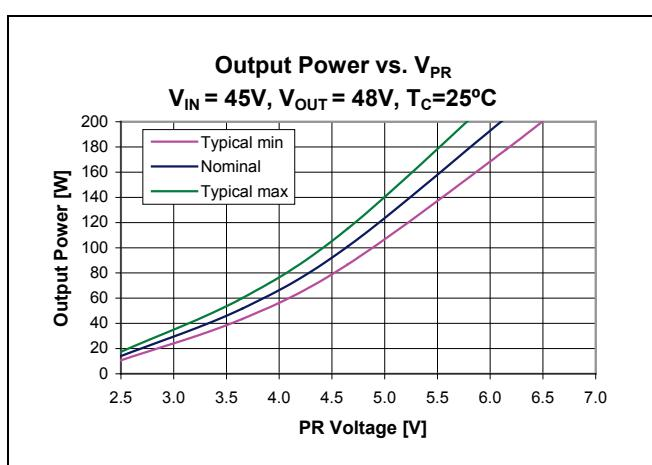

Figure 21 – Output Power vs. V_{PR} ; $V_{IN} = 45$ V, $V_{OUT} = 48$ V, $T_{CASE} = 25^{\circ}\text{C}$
Control node (PR) is the input to the control node which determines the powertrain timing and ultimately the module output power (Figure 21). An internal 0.5mA current sink is always active. The bi-directional buffer between PR and the control node has two states. In normal operation, PR will be above the 0.79 V switching threshold, and will drive the control node through the buffer. An internal 7.4 V clamp determines the maximum output power that can be requested of the modulator. When PR falls below 0.79 V, the converter will stop switching. An internal circuit clamps the modulator input control node to 0.79 V, and a buffer will source up to 2.5 mA out of the pin at that clamp level. For this reason, the output impedance of the amplifier driving PR must be taken into account. A rail-to-rail operational amplifier with low output impedance is always recommended.